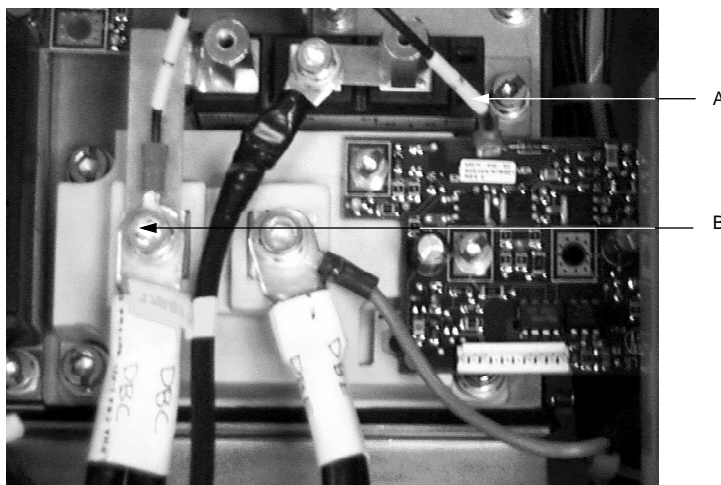

Figure 4.2.18: Removing the DB Gate Driver Board
4. Using a hex key wrench, remove the hex screw located at the Q7-C terminal of the DB IGBT module (**B**). This frees the control wire (**A**) which is attached to the DB gate driver board at the J1 location. (See Figure 4.2.18 on page 4.2.36).